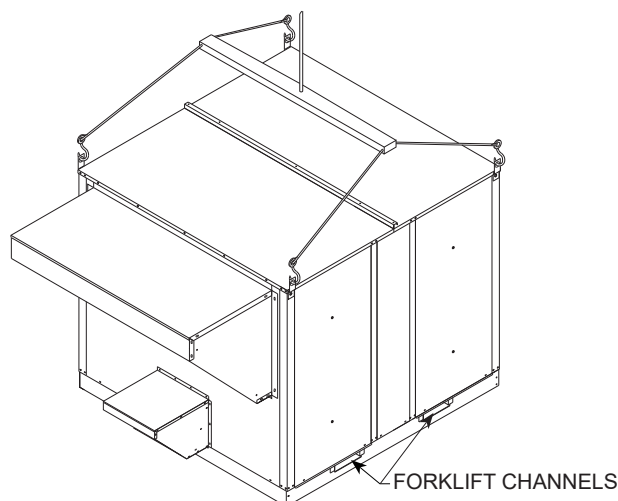

Figure 1
6. Forklift channels (if used) must be removed from the base of the ERV before setting unit on curb. **See Figure 1.**